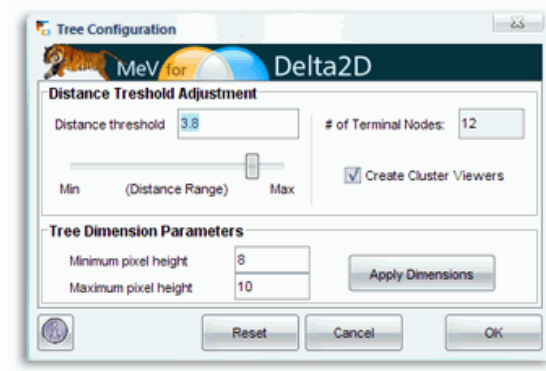

Figure 5.64.: Cut a tree by a distance threshold. Use the slider to adjust the threshold.
- Use the slider to cut the tree at a certain distance from the root (fig. 5.64 on page 129).